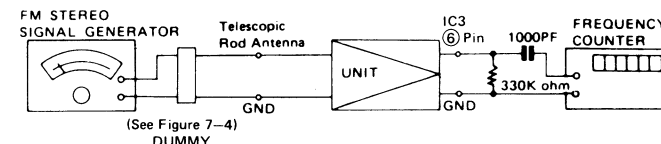

Figure 7-3
- Connect instruments as shown in Fig. 7-3 and Fig. 7-4.